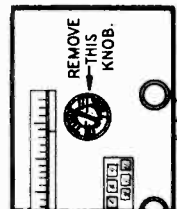

FIG. 6
3. Remove the large knob on the station selector shaft which the control in the upper right hand corner of the panel is connected to (see fig. 6). This knob is removed by firmly pulling it away from the panel. As this knob is removed another small knob on the same shaft, partly hidden behind the panel face, will appear.